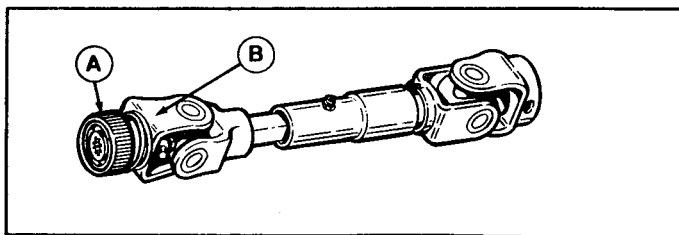

Figure 2A.
- b. To push onto the drive shaft, pull locking ring (A, figure 2a) back, and then push shaft on, past the groove.